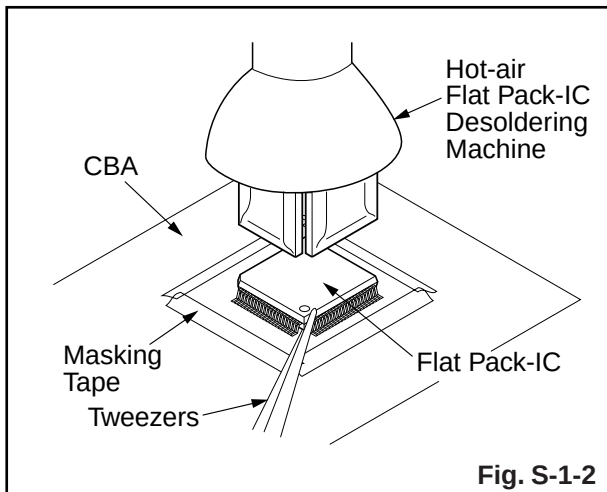

Fig. S-1-2
2. Do not apply the hot air to the chip parts around the Flat Pack-IC for over 6 seconds as damage may occur to the chip parts. Put Masking Tape around the Flat Pack-IC to protect other parts from damage. (Fig. S-1-2)